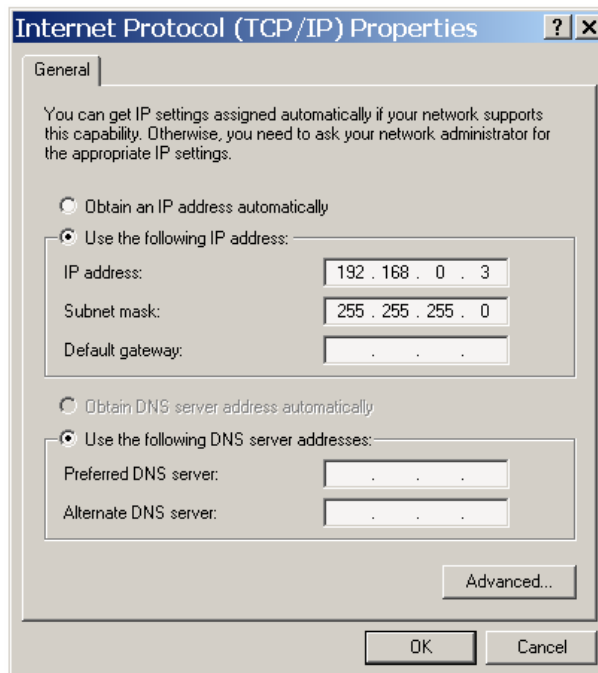

Figure 47 – TCP/IP Priorities Dialogue Box
4. Enter the information shown above in Figure 47 and click “OK” to accept the changes.